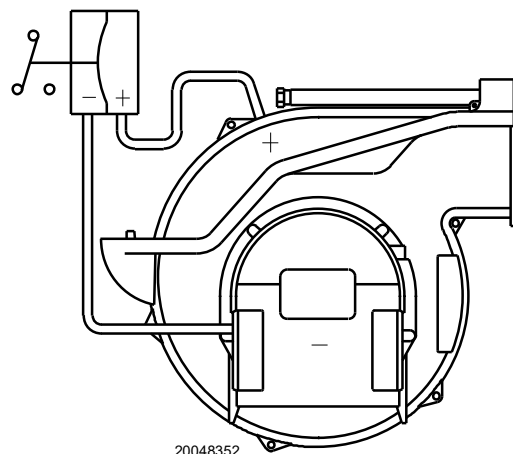

Fig. 37
- Adjust the air pressure switch (Fig. 37, page 28) to the start of the scale.
The air pressure switch is connected in differential (see Fig. 37) and is activated by both the negative pressure of the air intake and the air pressure from the fan.